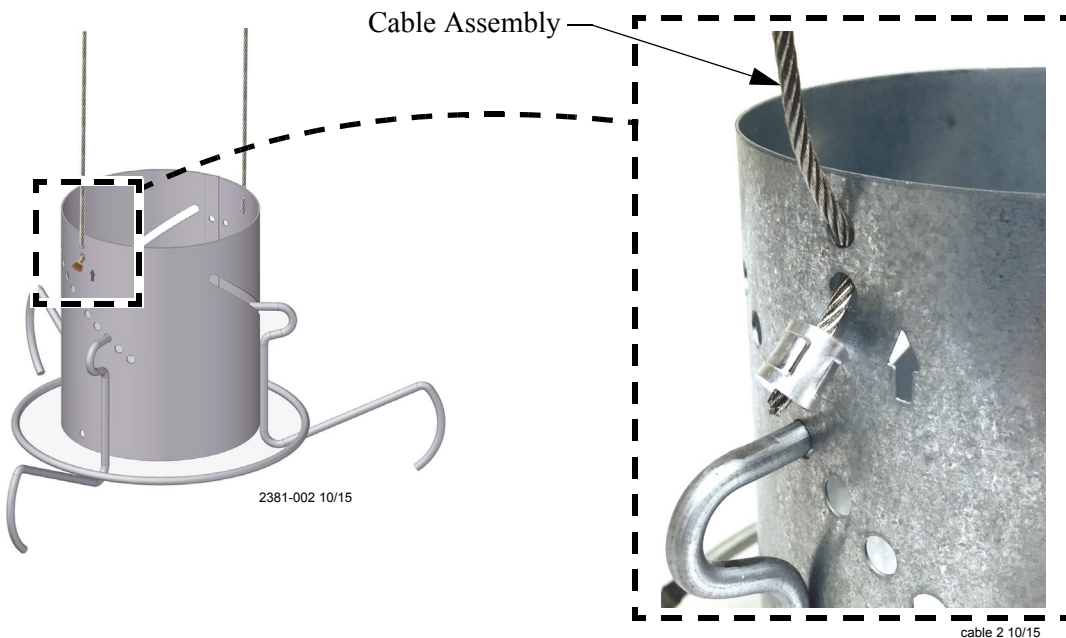

Figure 26. Attaching Cable Assemblies
•If the feed level tubes are to be winch adjustable, install the cable assemblies at this point (See Figure 26.) If the feed level tubes are not to be winch able, proceed to step 5.